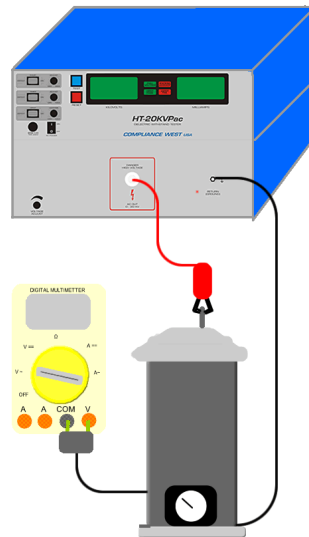

Figure 5-1. Voltage Measurement with 1000:1 High Voltage Probe
3. Set up a 1000:1 probe with an external volt meter as is shown on Figure 5-1.
2. Set up a 1000:1 probe with the volt meter as is shown on Figure 5-1.